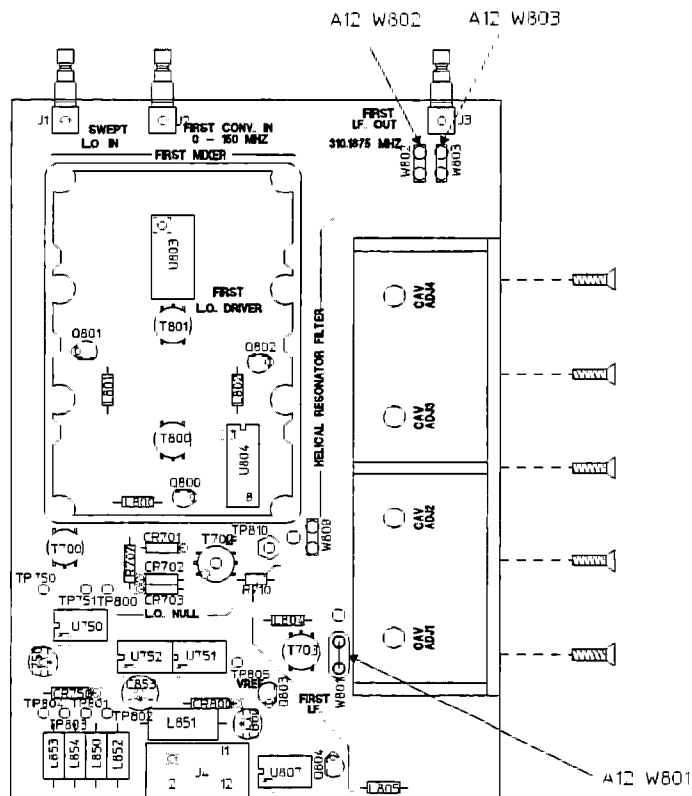

Figure 1-14. A12 First Conversion Component Locator
2. Move A12 W801, W802, and W803 to their test positions (see figure 1-14).